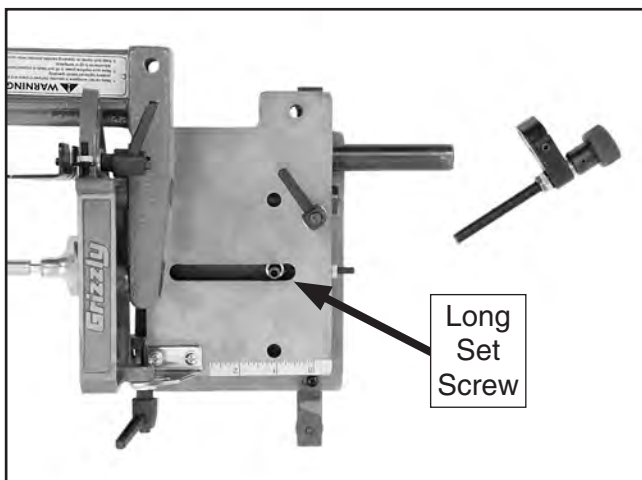

Figure 11. Slide plate positioned over the base plate.
- Place the slide plate over the upright set screw, as shown in **Figure 11**.